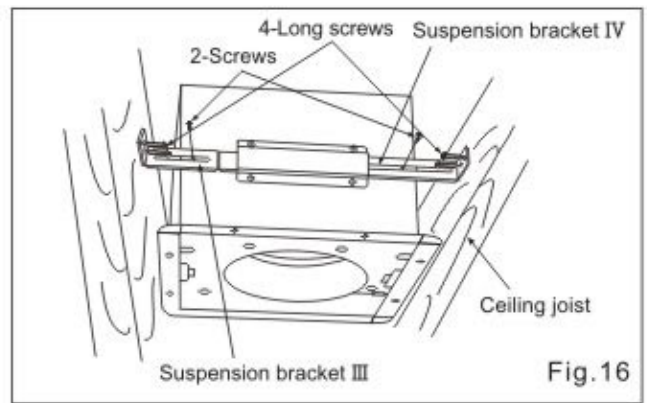

Fig.16
4. Secure the suspension brackets with the long screws. (Fig.15, Fig.16 of page 10)
- Secure the suspension bracket III & IV to the fan body using short screws. (Fig.16)